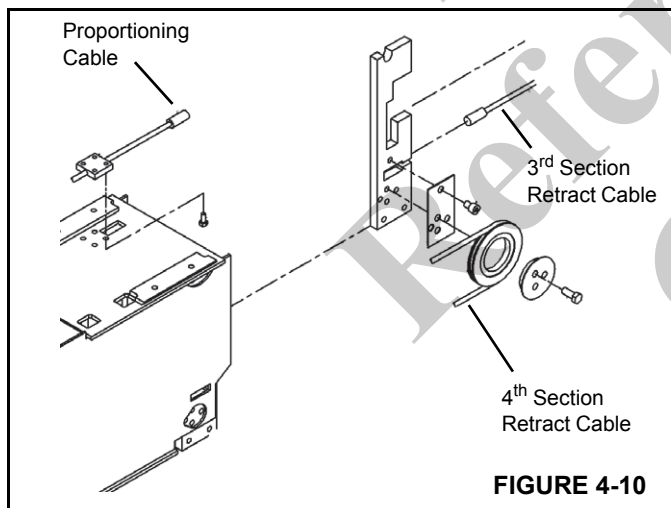

FIGURE 4-10
1. Uncoil 3rd section retract cable assemblies and insert the button end into the cable anchor pockets in the rear of the 3rd section. Install the keeper plate over the cable end (Figure 4-10).
- d. Place the uncoiled cable in a safe area to prevent damage (Figure 4-10).